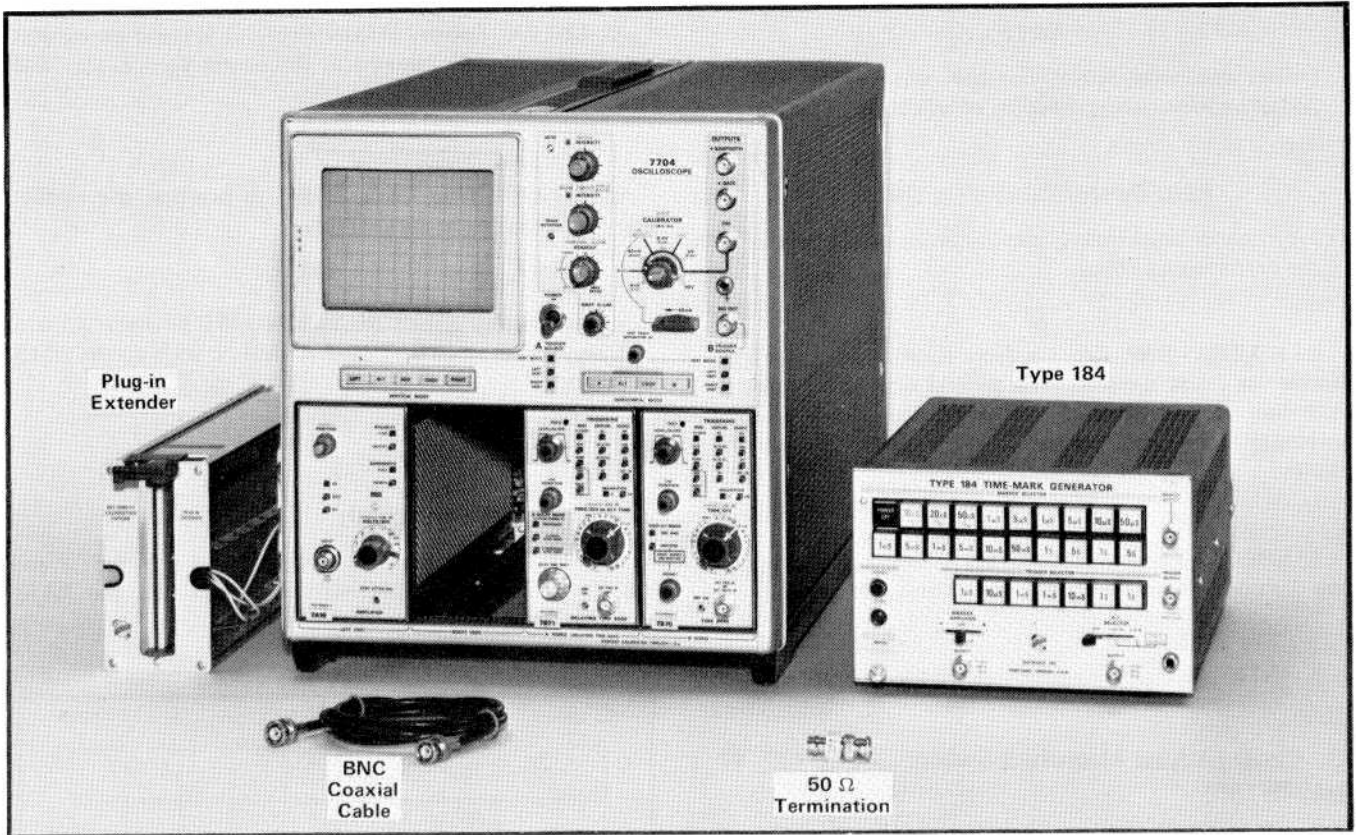

Fig. 5-6. Test equipment required for Steps 17 through 25.
17. Check/Adjust Sweep Calibration (SWP CAL, a front-panel adjustment) ①
- a. Test equipment required is shown in Fig. 5-6.